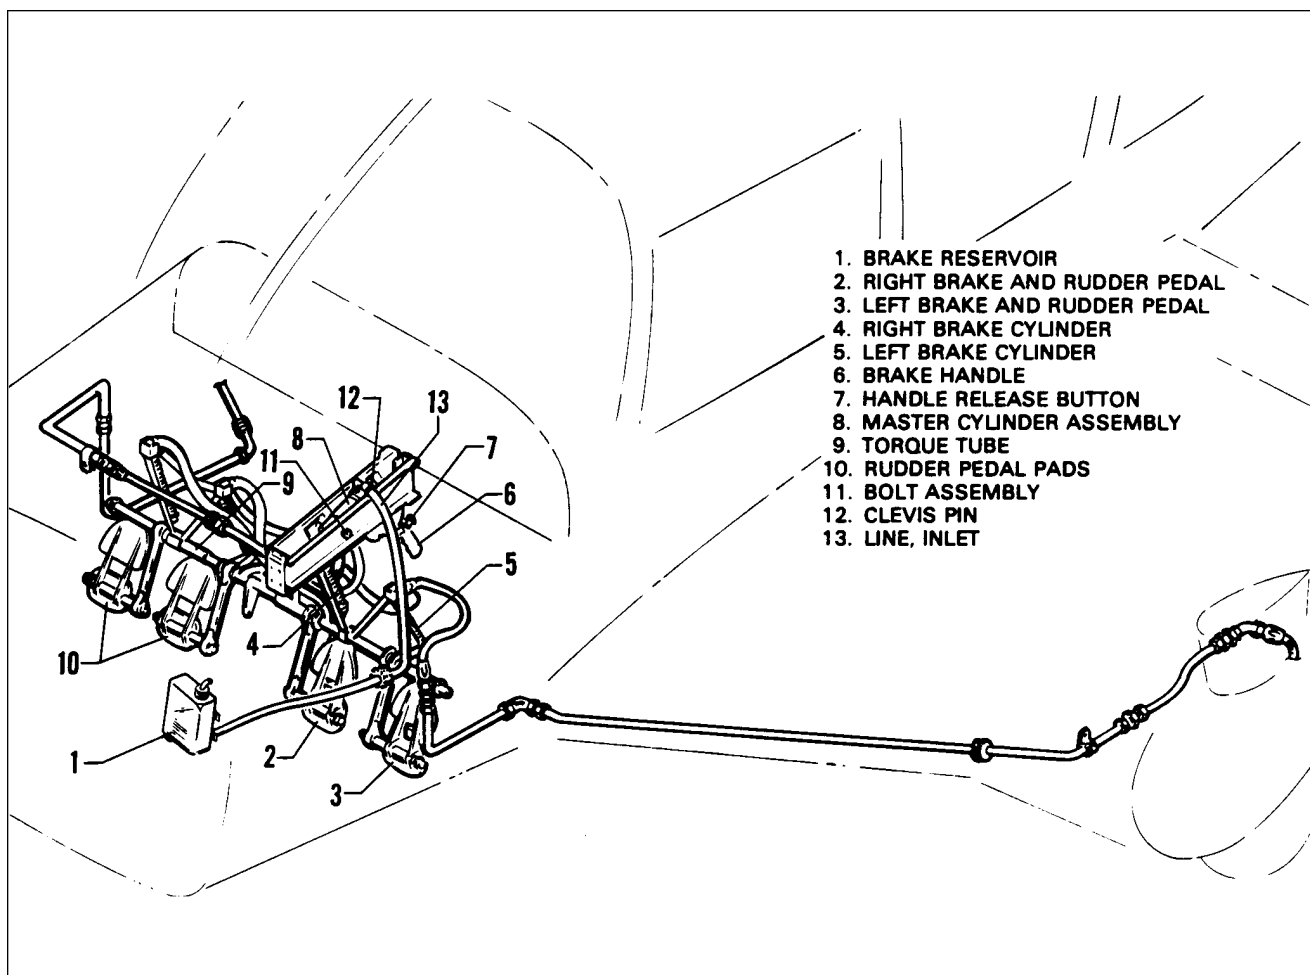

Figure 32-14. Brake System Installations
K. REMOVAL OF BRAKE MASTER CYLINDER (HAND BRAKE) (Refer to Figure 32-14.)
O. INSTALLATION OF BRAKE MASTER CYLINDER (HAND BRAKE) (Refer to Figure 32-14.)